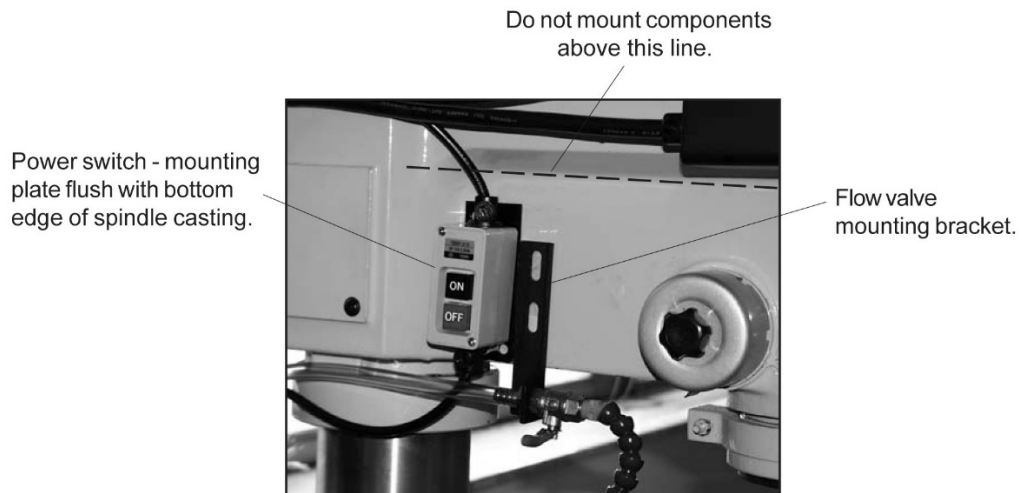

Figure 11-1
4. Position power switch and valve bracket in convenient position on spindle casting. Mark mounting hole locations and drill holes. (Refer to Figure 11-1)
Note: Mount components near the lower edge of the spindle casting. DO NOT mount components above the line shown in Figure 11-1.